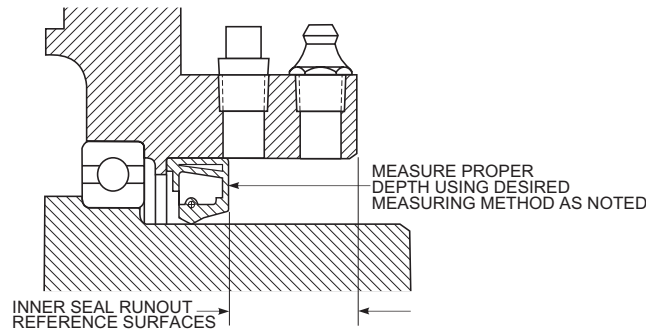

Figure 3
3. Place a square ended cylindrical tool against the seal and press or lightly tap the tool (not the seal) until the seal is seated against the shoulder. (Figure 3)
4. Check inner seal backface runout with a depth micrometer, dial indicator, or bar micrometer as shown in Figure 3, must be performed prior to outer seal installation. Runout must not exceed .010" (0.25mm) TIR.
6. Check seal runout with a depth micrometer, dial indicator or bar micrometer as shown in Figure 3. Runout must not exceed .010" (0.25mm) TIR.